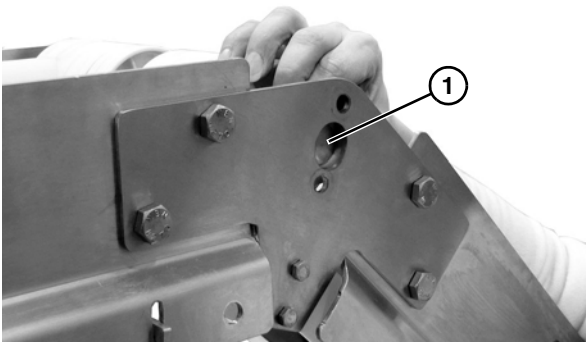
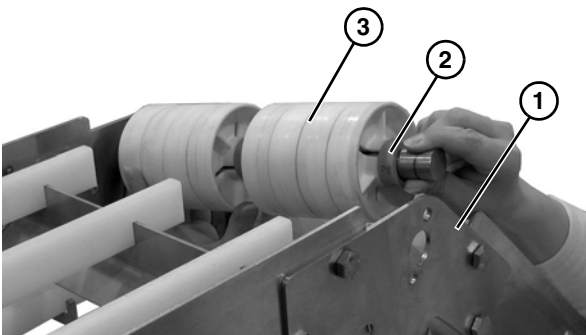

Figure 59
Figure 60
- Slide shaft (**Figure 59, item 1**) inwards to remove from knuckle frame (**Figure 60, item 1**).
Spacer (**Figure 60, item 2**) and pucks (**Figure 60, item 3**) are loose and can slide off the shaft.